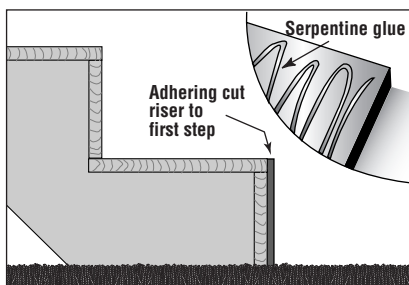

Figure 2
2. Glue in place by applying a 3" (7.6 cm) serpentine bead of construction adhesive to the back of the flooring (Figure 2). Refer to construction adhesive label for all recommendations, warnings and safety precautions.